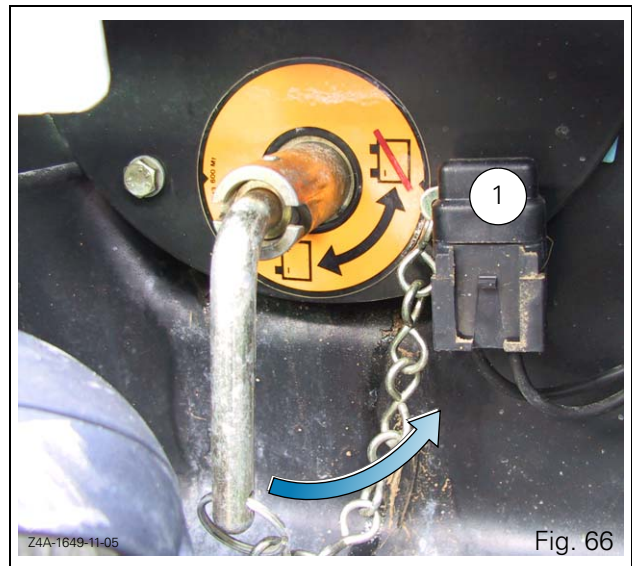
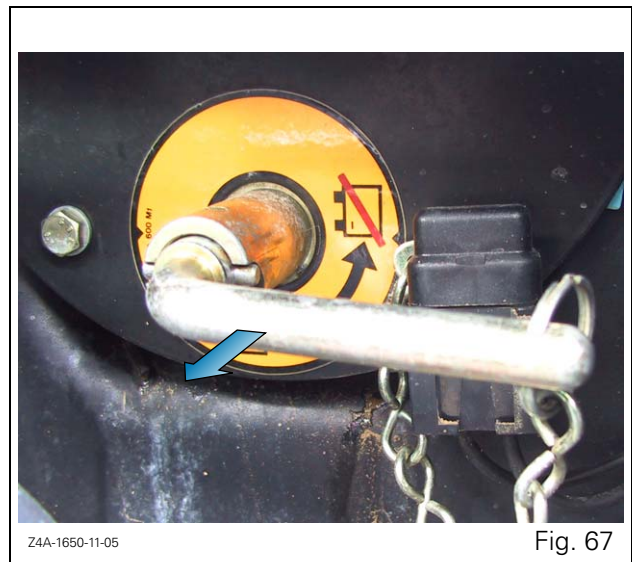

Fig. 66
Fig. 67
To cut the power off, **turn the handle** on the battery circuit breaker (Fig. 66) **to OFF** (anti-clockwise) (Fig. 67).
In order to do so, turn the handle anti-clockwise and pull it towards you to remove it from its housing and withdraw the fuse (1 Fig. 66).
**NOTE:** The 3A fuse near the battery cut-off switch protects the radio and headlight module (Fig. 66)
- remove the fuse cover (1 Fig. 66) which gives access to the fuse,
**IMPORTANT:** Before turning the ignition key, make sure the circuit breaker is closed (Fig. 66), otherwise the 3A fuse may well fuse itself.